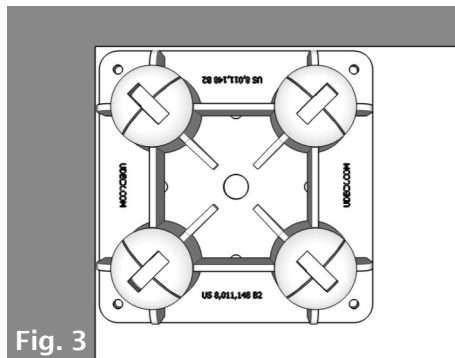

Fig. 3
2. Place the first Pier (A) at an outside corner of the 10' X 10' area you measured off. (Fig. 3)